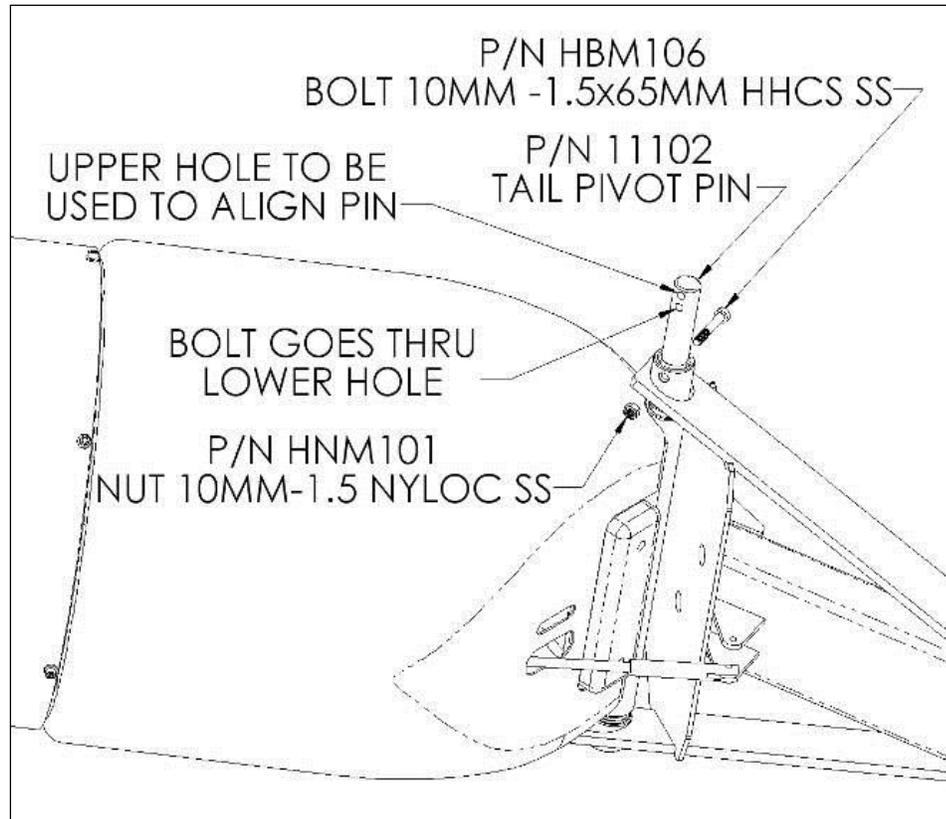

Figure 15: Excel Tail boom and Pivot Pin
- d. Hold the tail boom in a position so the end with the fin is angled up ~ 15° and align the tail bushings with those of the powerhead, then insert the tail pivot pin as shown in **Figure 15**. The pin may need tapping through, but keep in mind that the stainless steel pin can be damaged if it is handled incorrectly. Use a block of wood or rubber mallet on the pin.